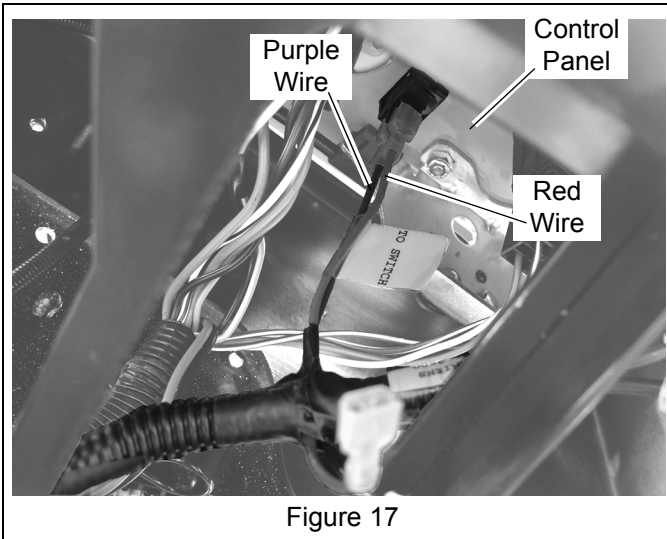

Figure 17
21. Connect red and purple wires marked "TO SWITCH" to headlight switch in control panel. See Figure 17.